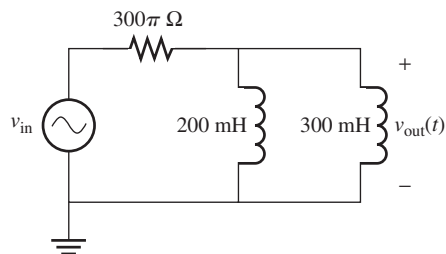

FIGURE P7.27 Filter for Problem 7.27.
7.27 (A) Find the output voltage of the circuit in Figure P7.27. Given that input voltage $v_{in} = 5 + 6 \cos(100\pi t + 30^\circ) + 4 \sin(30,000\pi t + 45^\circ)$ V, what happens to the output voltage at low and high frequencies?